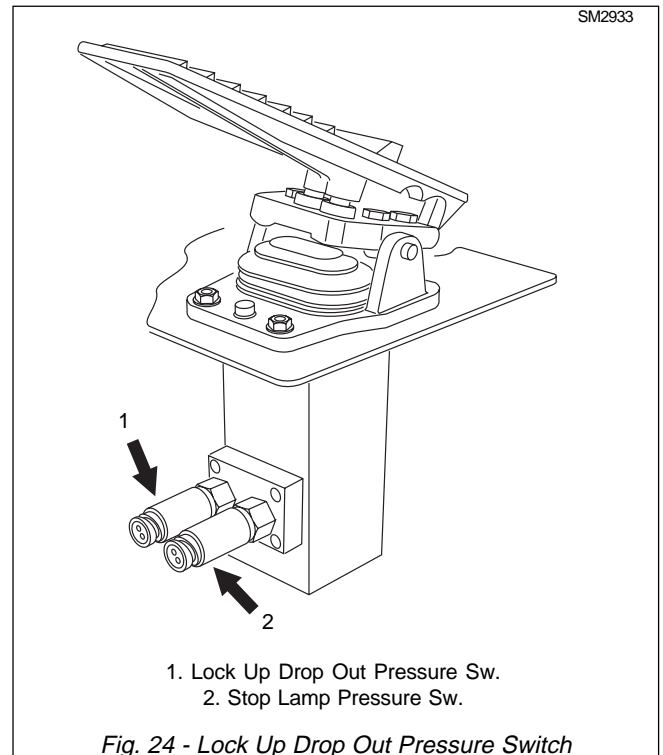

Fig. 24 - Lock Up Drop Out Pressure Switch
Converter Mode Light - Illuminates when the transmission is in torque converter drive. It goes 'Off' when Lockup is engaged. In order to avoid unnecessary waste of fuel, if traffic or other road conditions permit, the operator should modify throttle position, or gear held, to achieve a steady road speed with the torque converter lockup engaged (light 'Off'). The Lockup relay in the interface box (Fig. 5) is also activated by the 20 bar (290 psi) pressure switch on the foot brake pedal. When this switch is activated the converter in light will be illuminated due to the transmission dropping out of converter lock up, avoiding engine stall. (Ref. Fig. 24)
6. Lock Up Drop Out - Pressure switch (S16) mounted on the brake treadle valve will dis-engage the transmission lock up mechanism when it senses a pressure greater than 20 bar (290lbf/in²)(Fig. 24). When pressure switch (S16) senses the activating pressure it will energise Lock Up Drop Out Relay (6) inside the interface box (Ref. Fig. 17). This signal is sensed by the ECU vehicle connector (V) pin 27, wire 154.